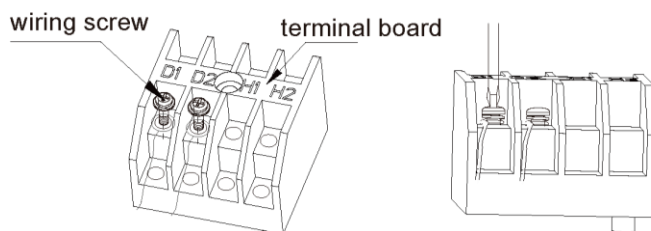

Fig. 5.3.1
- (1) Detach the electric box lid.
- (2) Let the Communication cable pass through the wiring through-holes.
- (3) Connect the communication wire to terminal D1 and D2 of indoor 4-bit wiring board, as shown in Fig. 5.3.1.